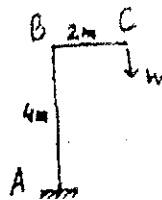

Figure 2
3. Using Castigliano's theorems, determine the deflection at the free 'C' of the bent as shown in Figure 2.